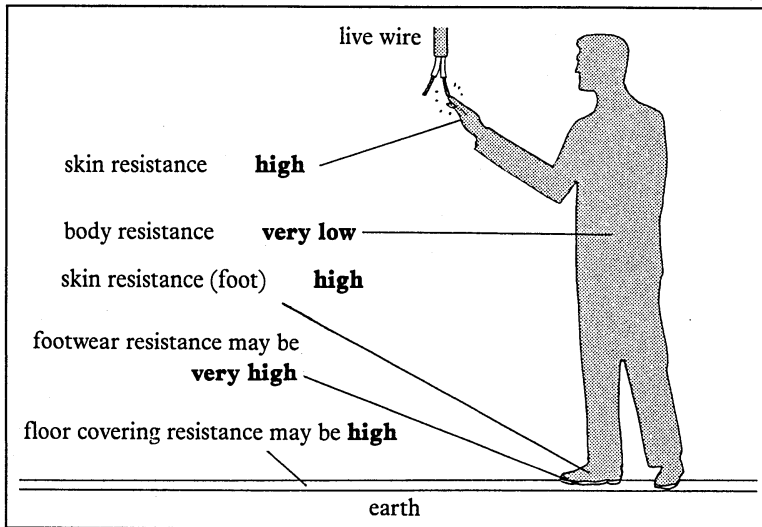

Figure 2
Figure 2 should help students to appreciate the dangers of using mains electricity out of doors when they are in direct contact with the earth. Wearing boots or shoes with rubber soles is a wise precaution because they insulate the body from earth.
If you get an electric shock the current flows through your body to earth. The size of the current depends on the total resistance. This is made up of several parts as shown in Figure 2. If the total resistance is high, the current will be small. Dry skin has a much higher resistance than wet skin. The *inside* of your body has a very low resistance. This is because it contains so much water.
- 8 Use Figure 2 to explain why: